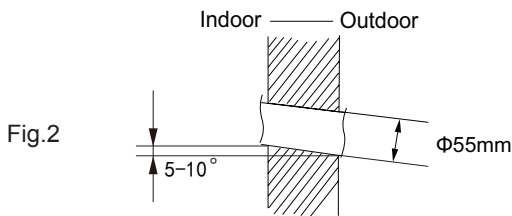

Fig.2
- (2) Open a piping hole with the diameter of $\Phi 55\text{mm}$ on the selected outlet pipe position. In order to drain smoothly, slant the piping hole on the wall slightly downward to the outdoor side with the gradient of $5\text{-}10^\circ$.(As show in Fig.2)